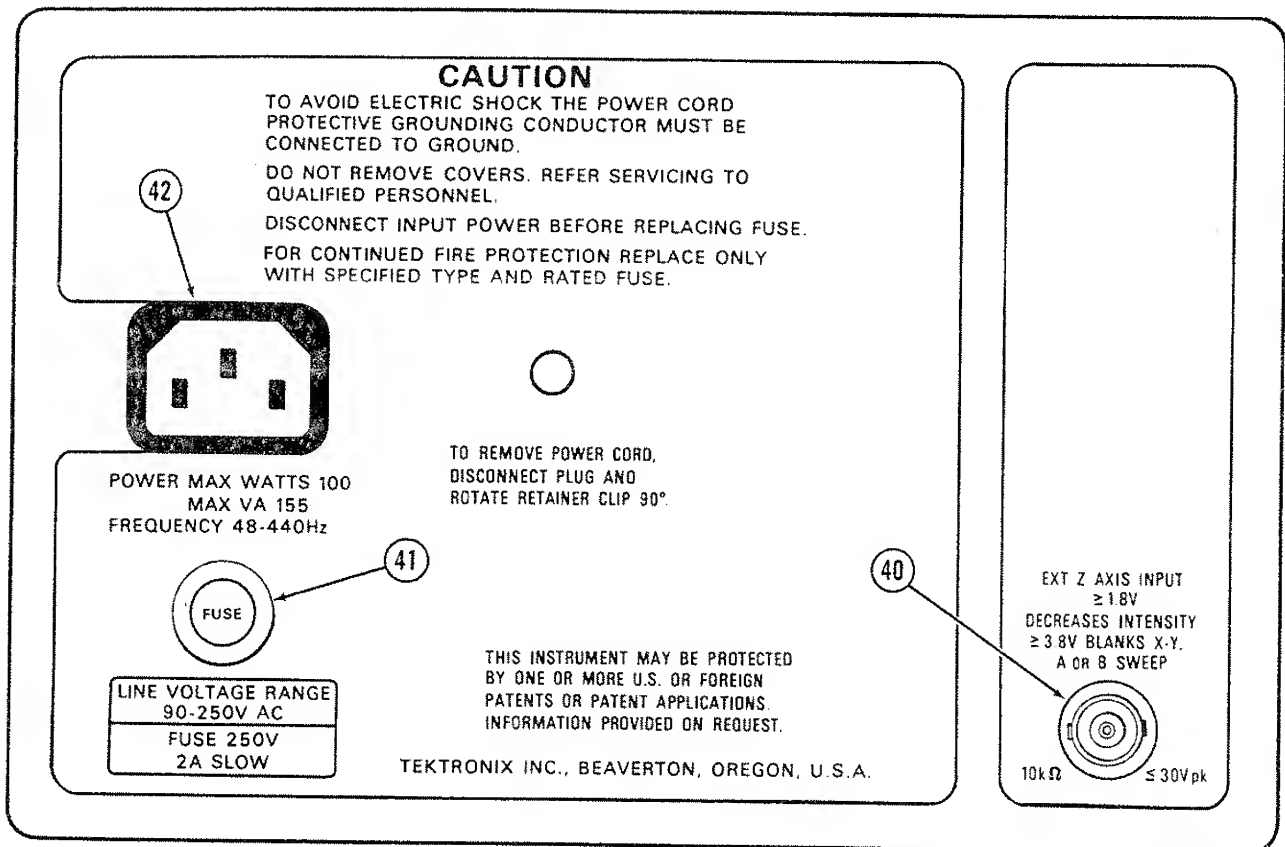

Figure 3-6. Rear Panel Connectors and Fuse.
See Figure 3-6 for items 40 through 42.